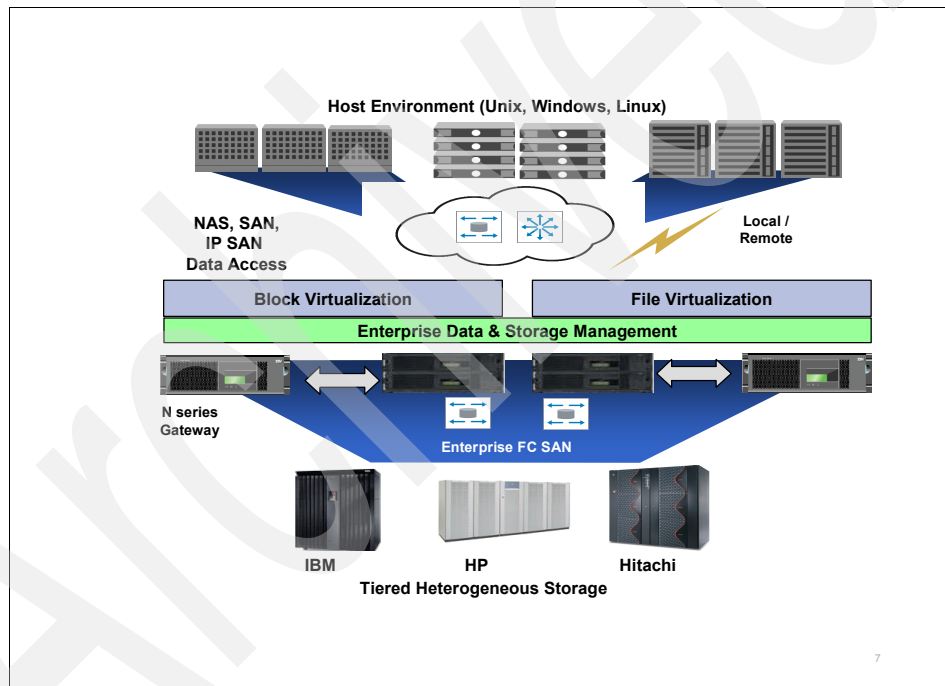

Figure 1-44 Tiered heterogeneous storage
- ▶ Transforms conventional storage systems into a better managed storage pool, as shown in Figure 1-44.